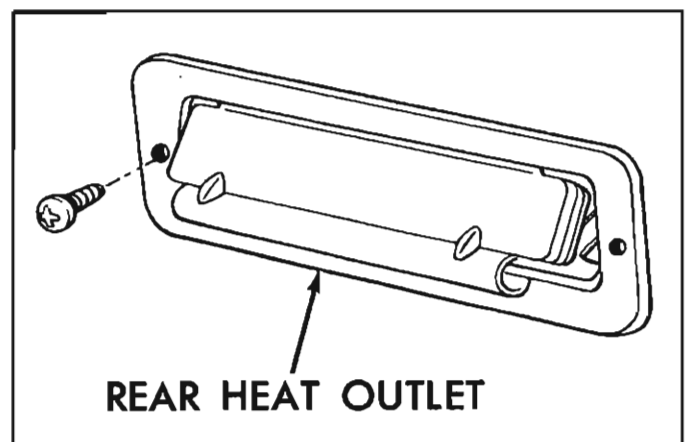

Fig. 11-2—Rear Seat Heat Outlet Door
- Rear seat heat outlets have a manually operated shut-off door for 1964. Figure 11-2 illustrates the rear seat heat shut-off door.
- Addition of the manual shut-off door over the rear seat heat outlets (fig. 11-2), plus improved heat duct components constitute the only Corvair 95 Direct Air Heater change.